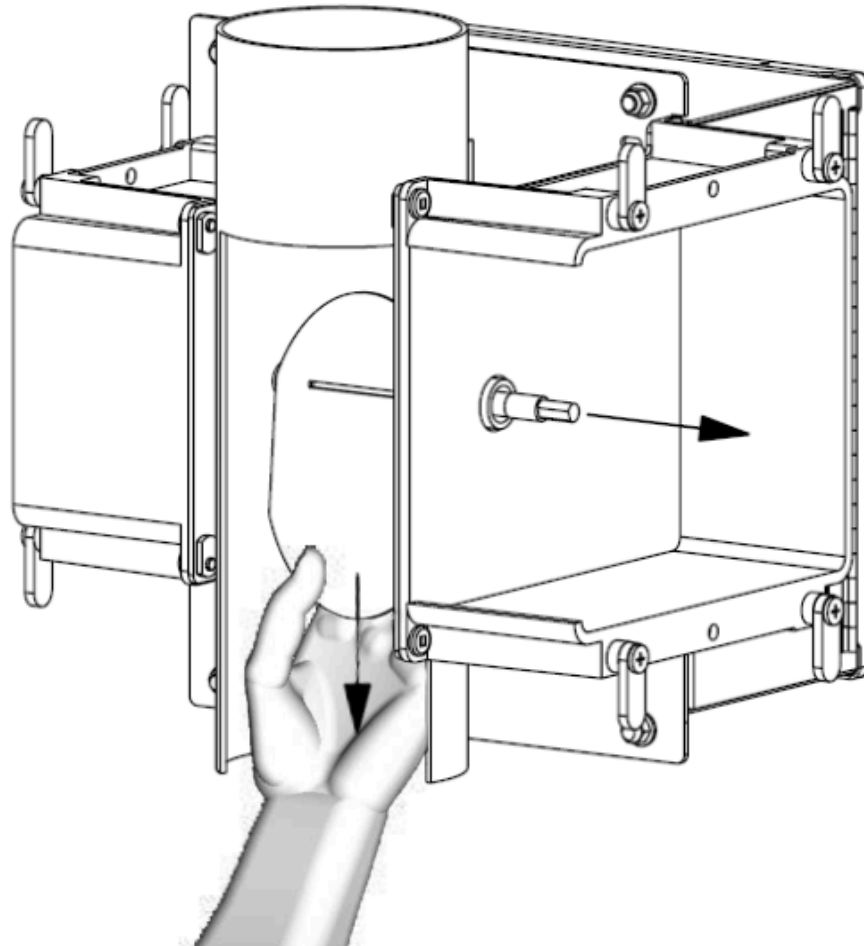

Figure 7-18: Sensor shaft and check valve removal
21. Insert the check valve into the air velocity sensor tube, positioned so the flap is pointed downwards towards the back of the air velocity sensor tube. Reference **Figure 7-18**.